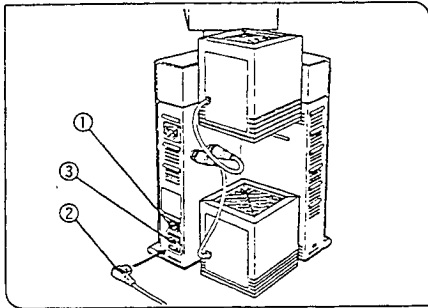

Fig. 19
(Fig. 19)
- ⚠ Make sure that the main switch ① is set to "O" (OFF) before connecting cords and cables. (Fig. 19)
1. Connect the power cord plug ② to the AC receptacle ③. (Fig. 19)